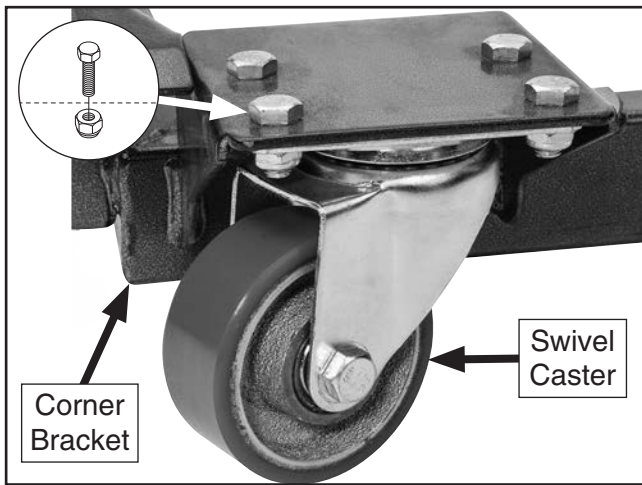

Figure 4. Swivel caster attached to bracket.
1. Attach swivel caster to each corner bracket with (4) M8-1.25 x 16 hex bolts and (4) M8-1.25 lock nuts (see **Figure 4**).